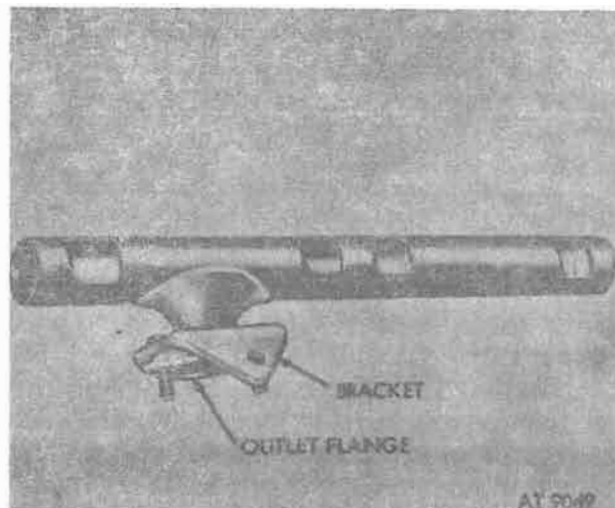

Figure 4-204. Exhaust manifold.
(3) Remove all fillings and foreign matter that may have entered the manifold as a result of repairs.
(4) Torque intake manifold bolts to 23-28 lb.-ft.
b. Exhaust Manifold (fig. 4-204).
(1) Inspect the exhaust manifold for cracks, warpage, or other conditions that would make it unfit for further service. Check manifold for misalignment, using a straightedge or flat surface plate and feeler gage. Replace manifold if variation exceeds 0.020 inch over a distance of eight inches. Check outlet flange for flatness. Examine threads on the two bolts welded to manifold outlet flange. Repair of manifold should not be attempted except for correcting defective threads on bolts welded to manifold. Examine exhaust manifold-retaining bolts for bent or stripped condition and replace as necessary. Replace tab lockwasher if one locking tab is broken. Replace exhaust manifold-retaining clamps if warped or cracked.
(2) Remove all filings and foreign matter that may have entered the manifold as a result of repairs.